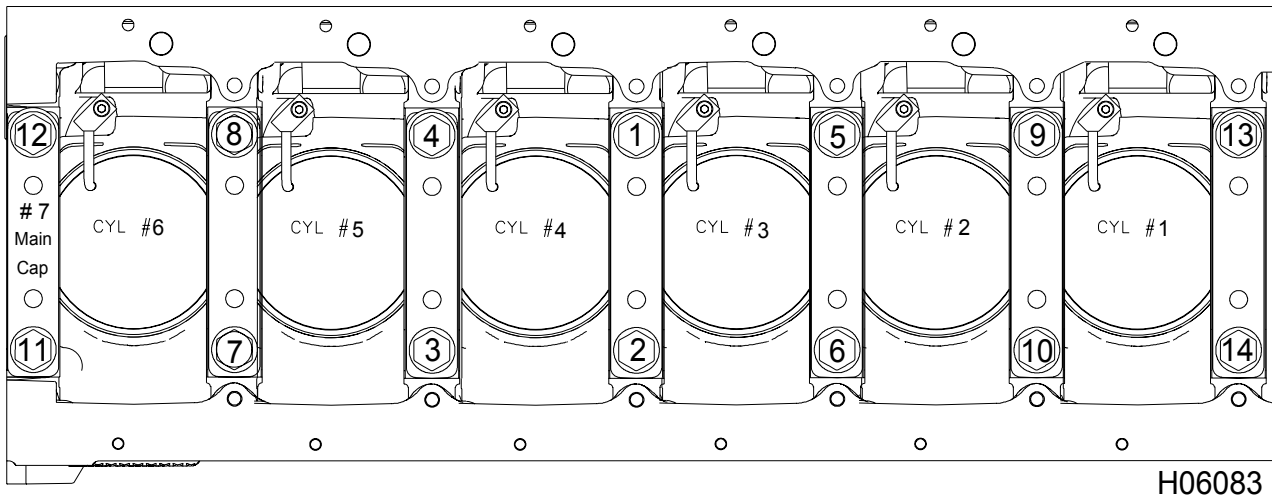

Figure 359 Recommended main bearing bolt torque sequence
1. Tighten each main bearing bolt to 136 N·m (100 lbf·ft) using the recommended torque sequence (Figure 359).
2. Tighten each main bearing bolt to 177 N·m (130 lbf·ft) using the recommended torque sequence (Figure 359).